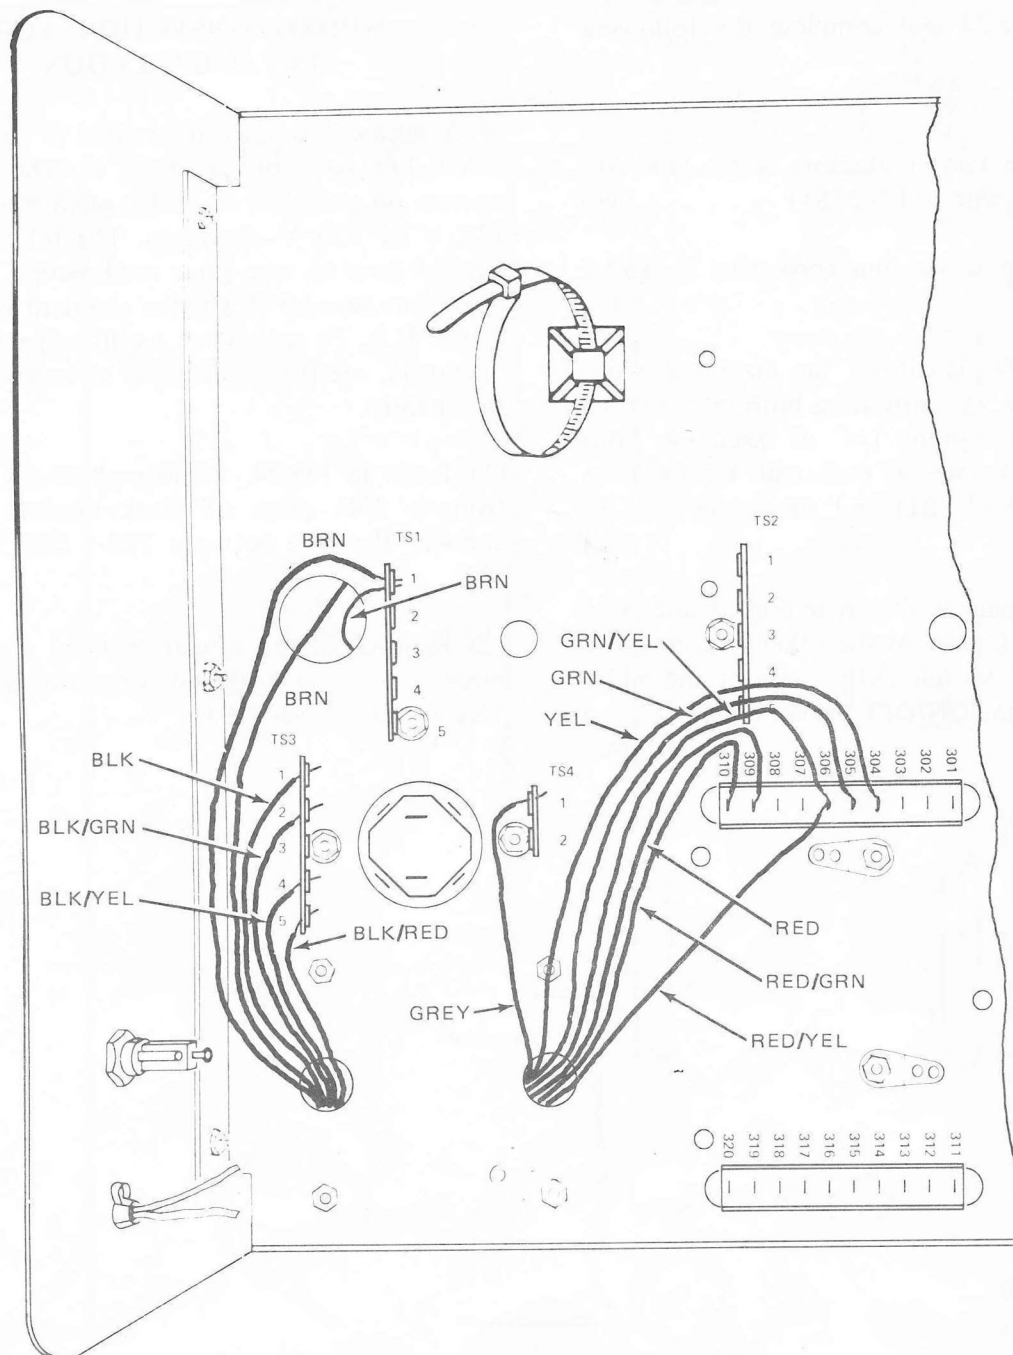

Figure 23. Connecting the power transformer wires.
Refer to Fig.23 and route each wire as shown:
(10) Connect the black/yellow power transformer wire to TS3-4 (NS) ()
(11) Connect the black/red power transformer wire to TS3-5 (NS) ()
(12) Cut either of the brown power transformer wires to a length of 7". Save the leftover piece of brown wire for use in the next step. Now connect the 7" brown transformer wire to TS1-1 (NS) . ()
(13) Connect one end of the brown wire you cut off in Step 12 to TS1-1 (NS). Route the other end of this brown wire through the chassis hole as shown in Fig.23 ()
(14) Route the other brown power transformer wire through the chassis hole as shown ()